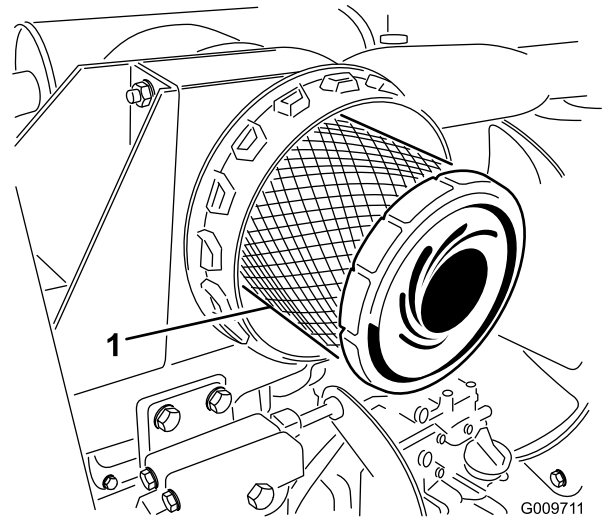

Figure 33
4. Remove and replace the primary filter (Figure 33).